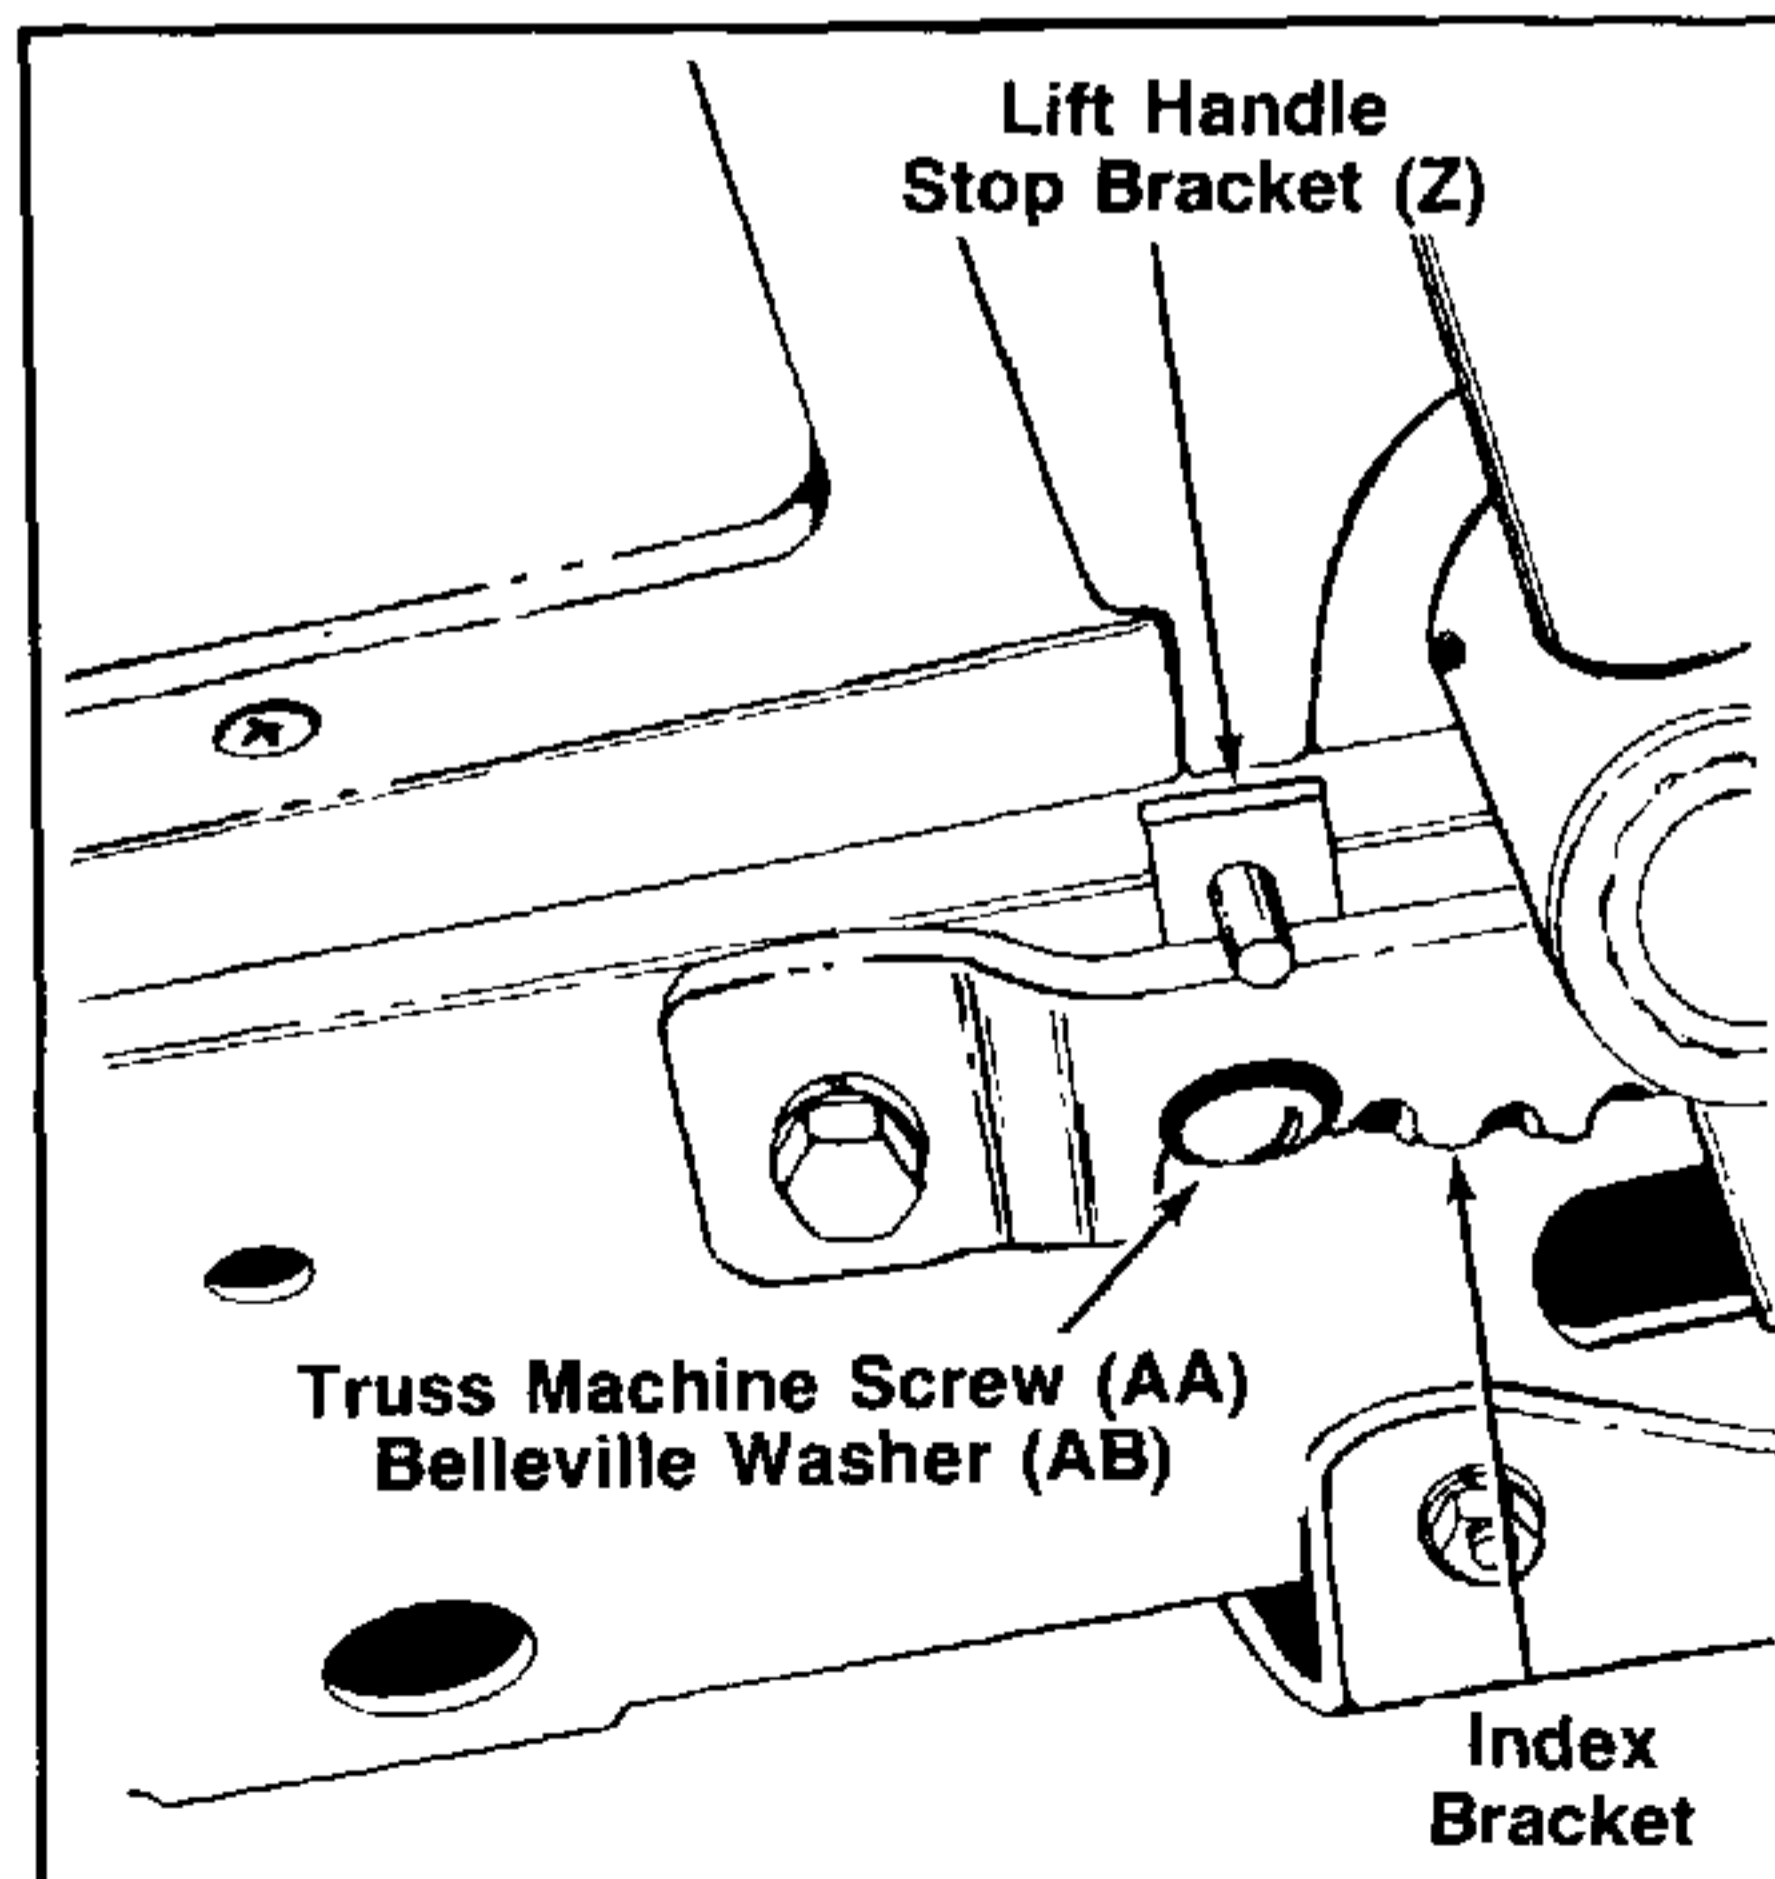

FIGURE 9.
18. Units with Serial Numbers 109,000 and below: Attach the lift handle stop bracket (Z) to the index bracket on the tractor as shown in figure 9, using belleville washer (AB) (cupped side against the index bracket) and truss machine screw (AA).